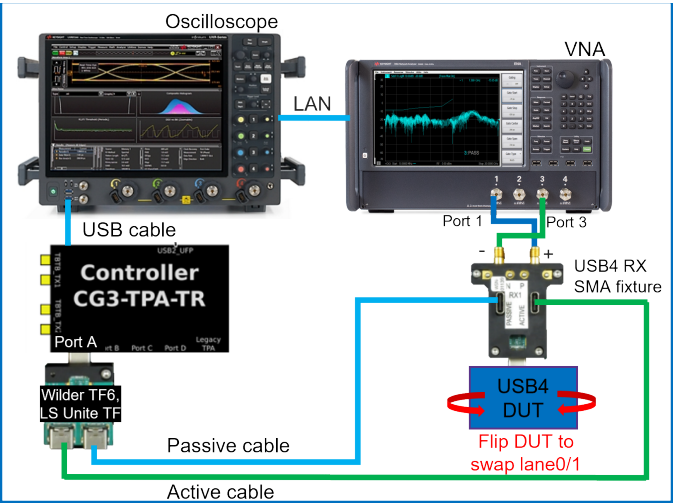

Figure 80 Tx Return loss test setup with Rx SMA test fixture
- 1 For the physical connections between the DUT & the Oscilloscope, see the connection diagrams in Figure 80 and Figure 81.